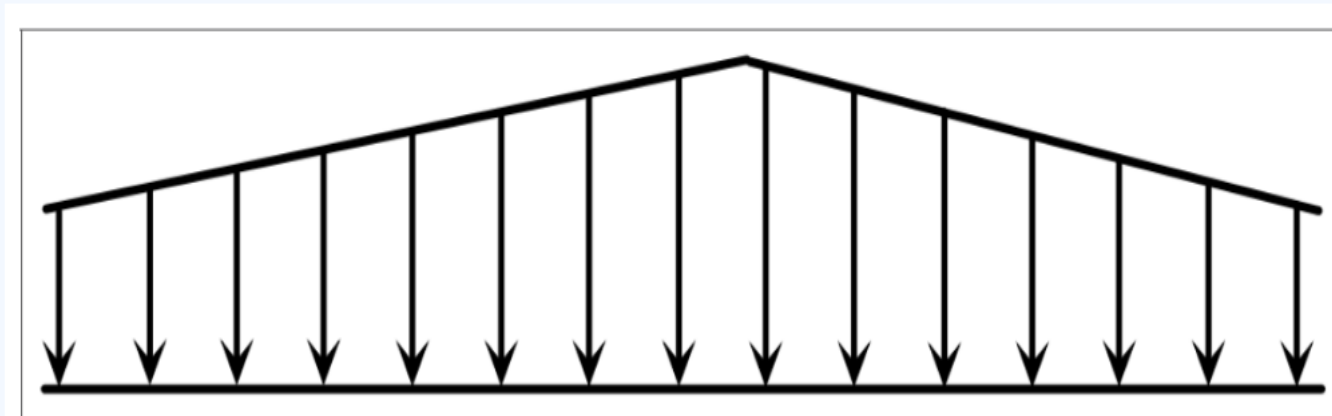

Figure 1.7
- **Distributed forces** for exemple beam's self-weight or additional load corresponding to a layer of snow. (figure 1.7)